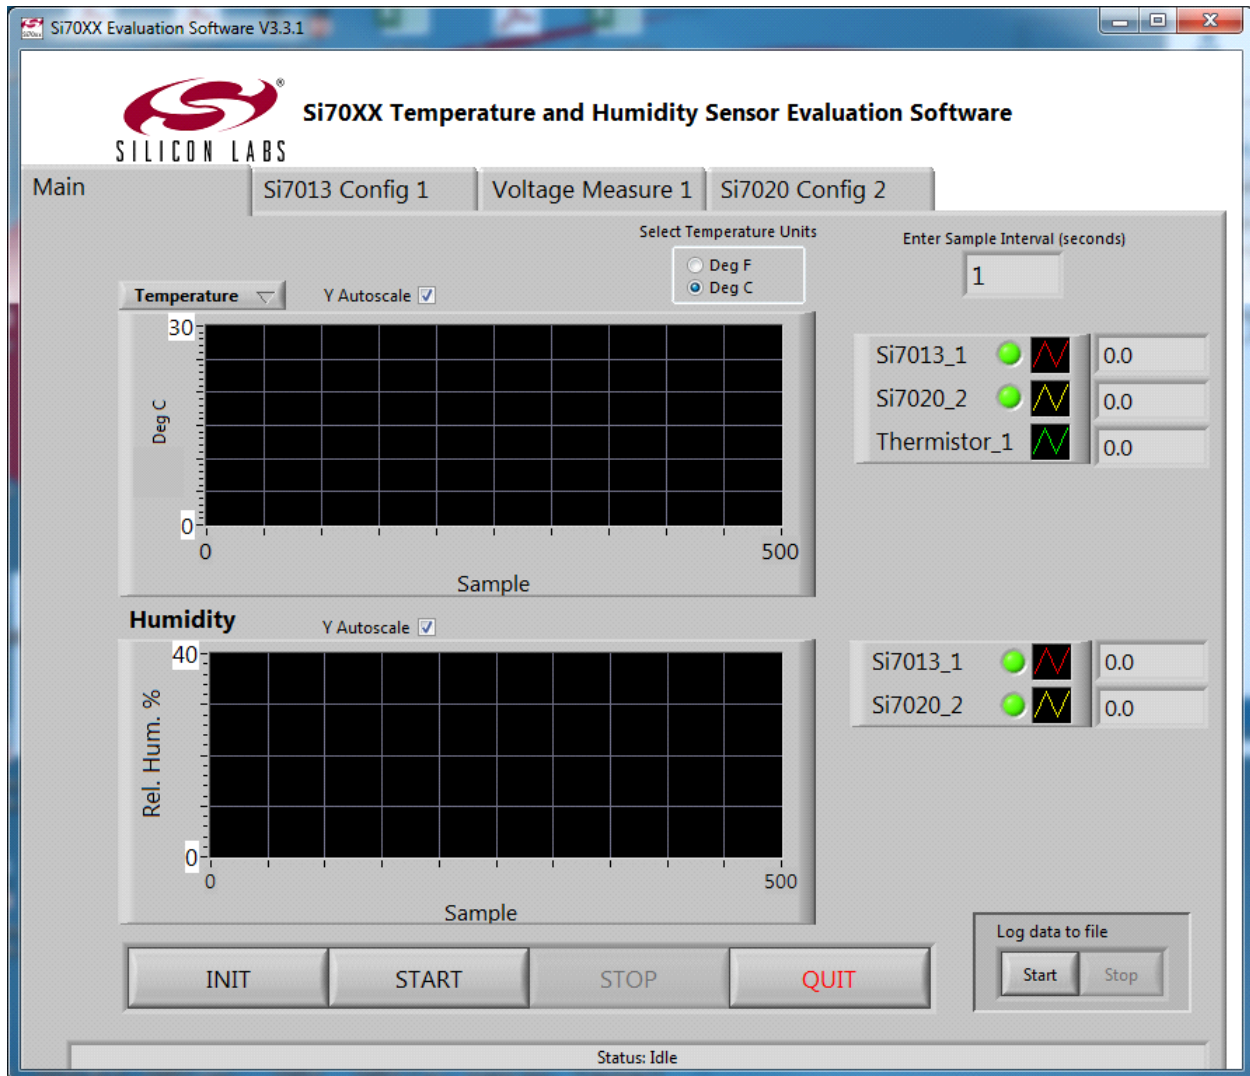

Figure 9. Configuration Screen
- Updated Figure 9, "Configuration Screen," on page 8.